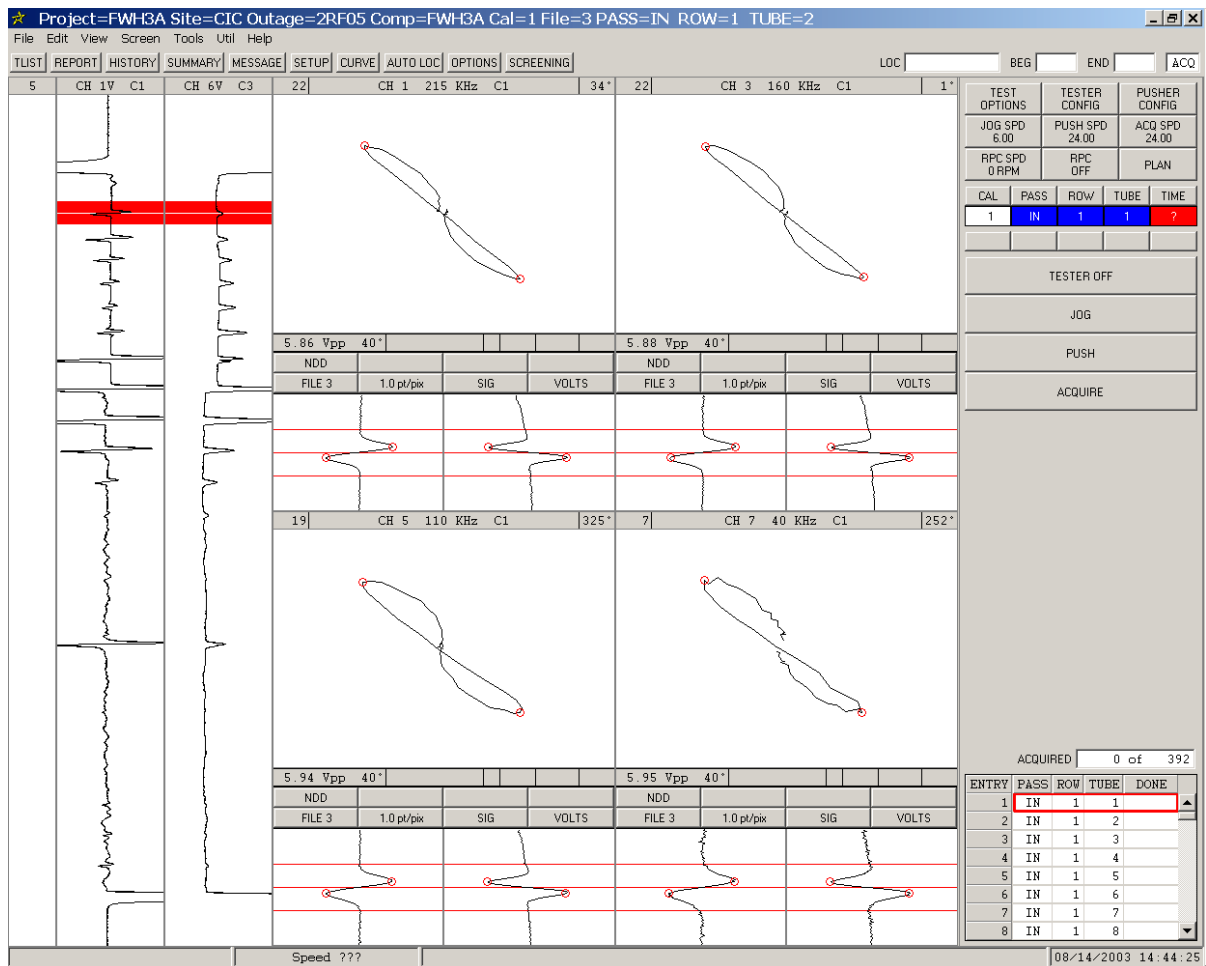

Figure 10-13. Acquisition Screen - Differential Channel Setup
STEP 12: Repeat the 2 steps above until the **100% TWH** signal measures a phase angle of 40° for channels 1, 3, 5, and 7 (*all differential channels*) as shown in Figure 10-13 below.